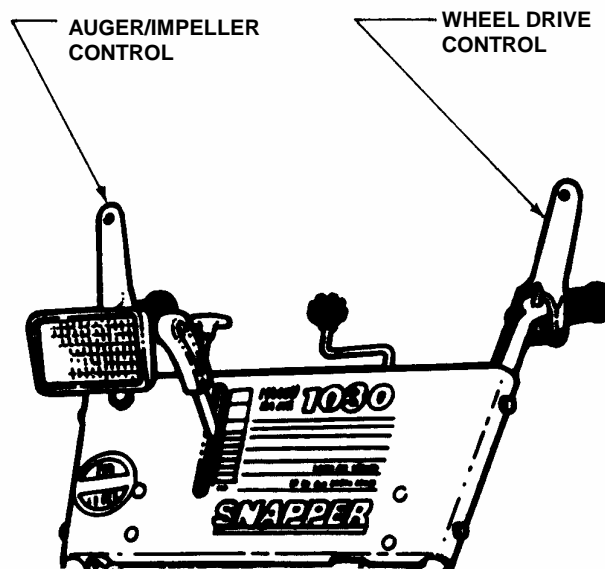

FIGURE 2.6
1. Move auger/impeller control lever against handle to engage auger/impeller. See Figure 2.6.
- IMPORTANT:** This snow thrower has six forward speeds and one reverse speed. See Figure 2.6.
1. Pull auger/impeller control lever against handle to engage auger/impeller. Refer to Figure 2.6.